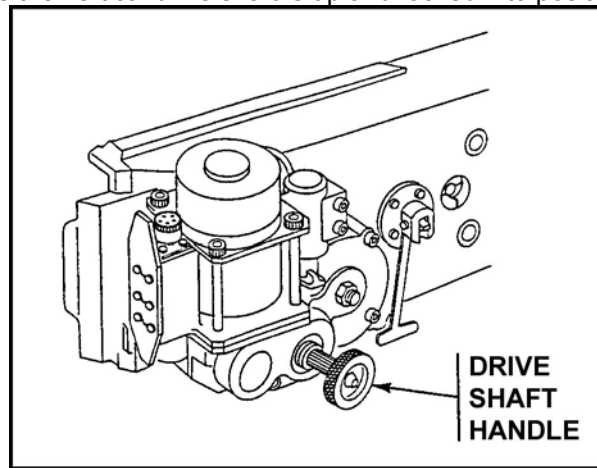

Figure 16. Vertical drive shaft handle.
- ( b ) Ensure the vertical drive shaft is up and locked into position (Figure 16).